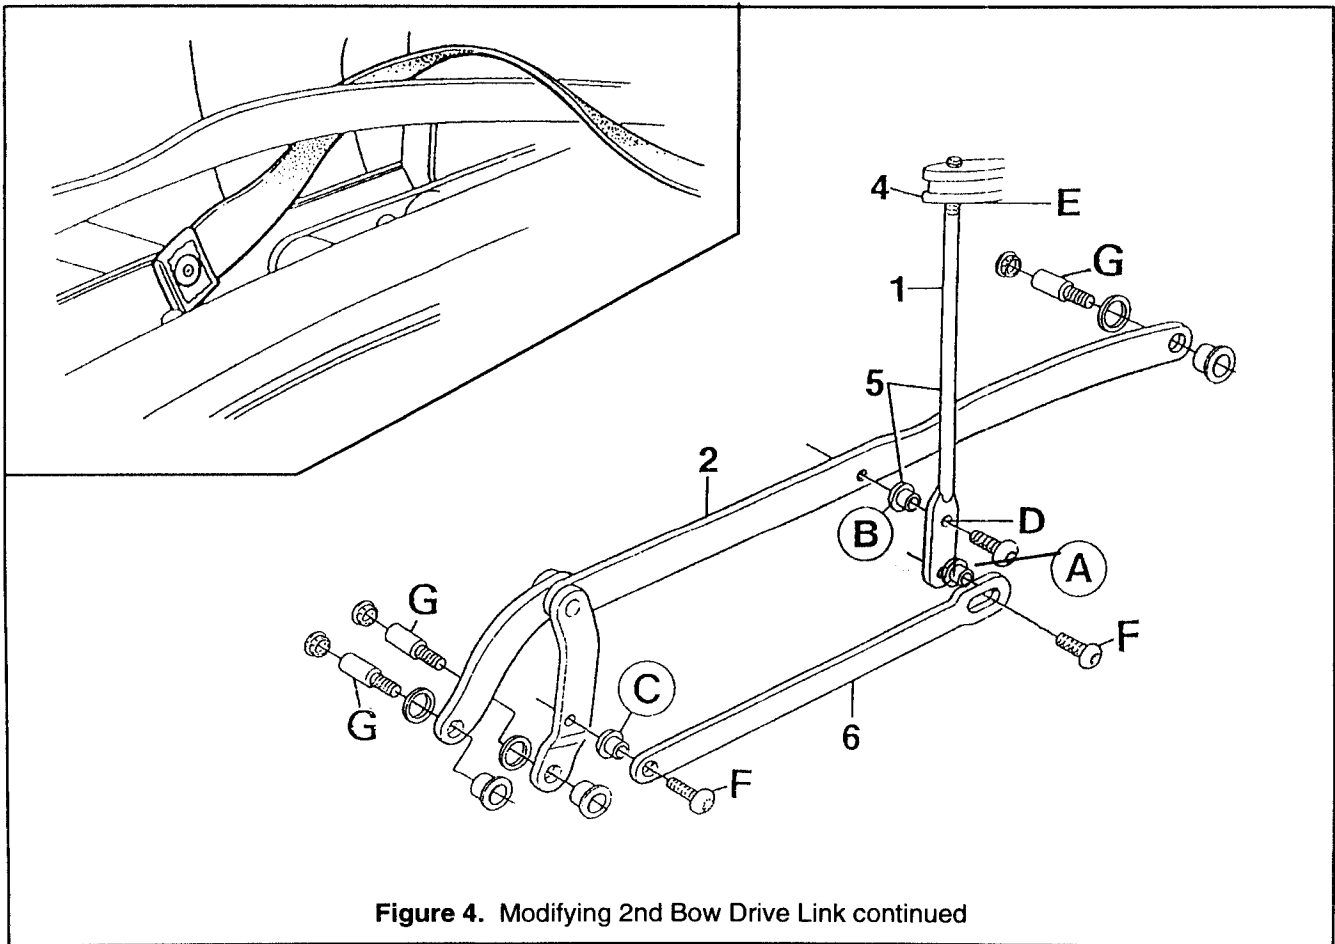

Figure 4. Modifying 2nd Bow Drive Link continued
3. Fit the intermediate link, making sure that the elastic strap passes over it. See inset, Figure 4.
6. Fit the auxiliary link as shown in Figure 4 (C is a black bushing and A is a yellow one).